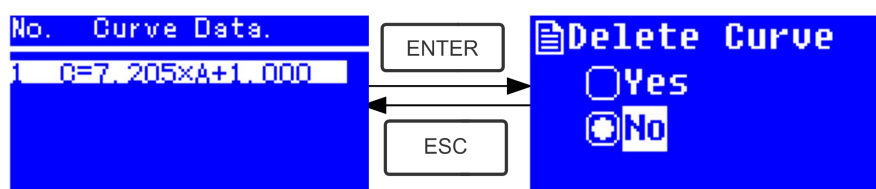

Fig. 4-16
- ★ Move the cursor on the curve equation that you want to delete and press , then system will ask you to confirm again. (Fig. 4-16)